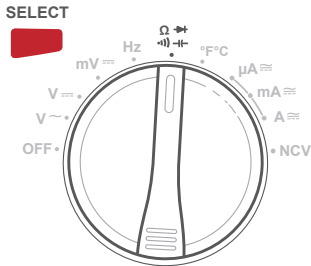

Figure 5.1
1. Turn the rotary dial to the diode () position. Press **SELECT** twice to choose the diode test. [Figure 5.1]